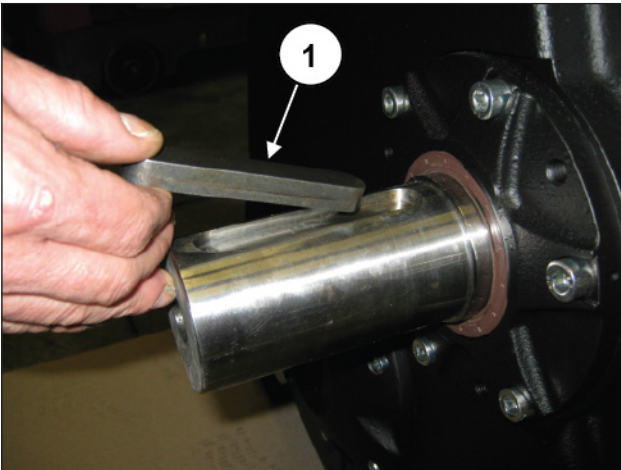

Fig. 145
Apply the tab to the PTO shaft (pos. ①, Fig. 145). Tighten the screws with a torque wrench as described in heading 3.